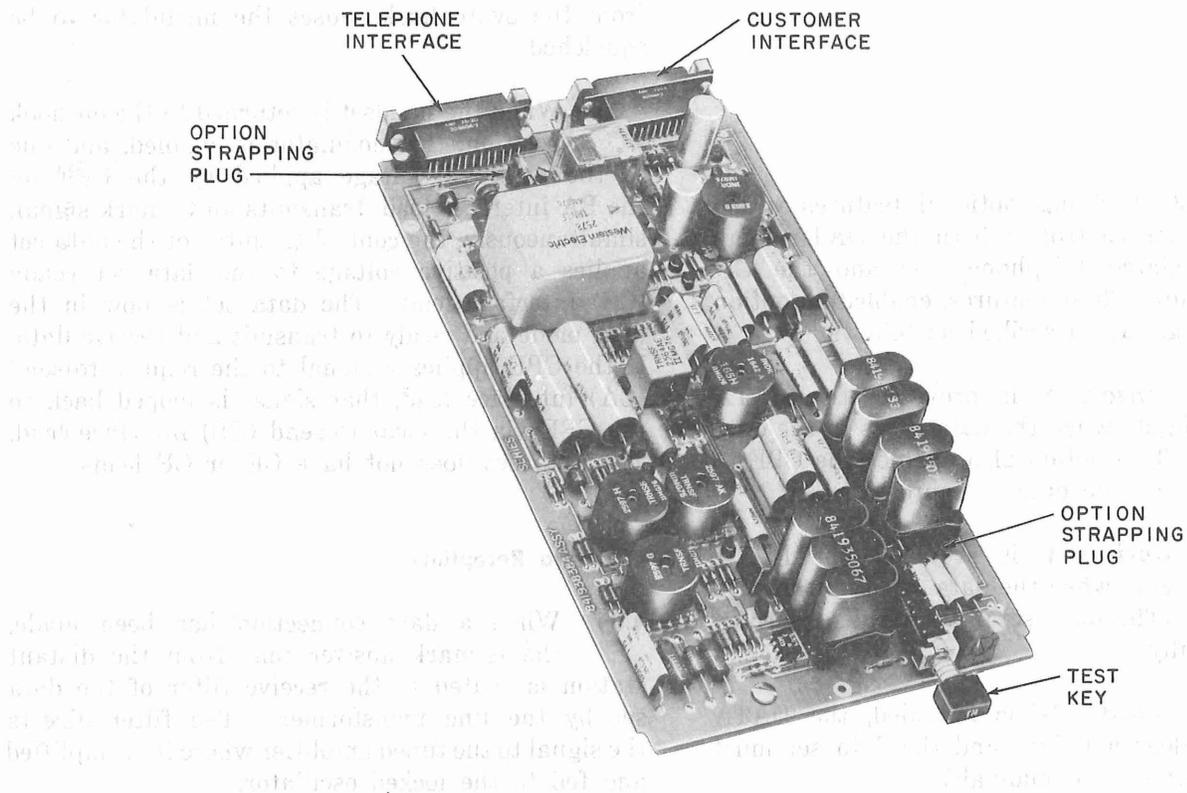

Fig. 2—Circuit Pack Removed From Housing
2.02 The circuit pack (Fig. 2) is 10.26 inches long, 5.5 inches wide, and 1.5 inches high. The assembly weighs approximately 2 pounds.